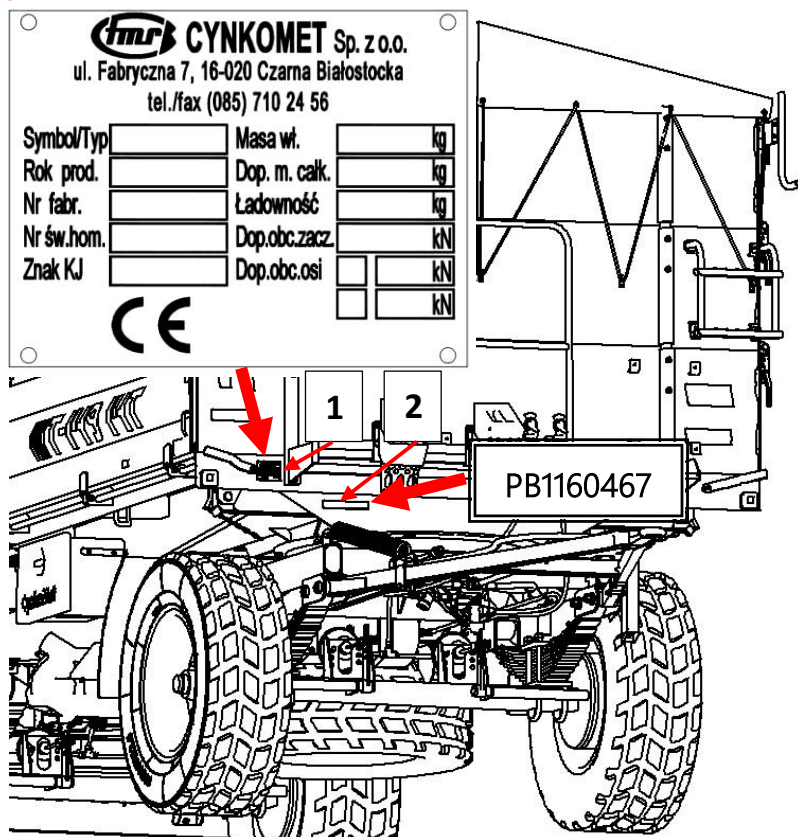

Figure 1. Location of the nameplate and issue of the serial number
The trailer is marked with the plate (1) and a serial number (2). The serial number is located on the front beam of the lower frame, and the nameplate is located on the front beam of the upper frame - figure 1.